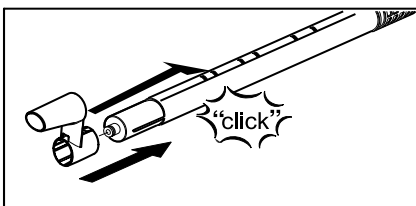

Figure 1
- Hold the unlocking button down, and push the parking device (G3) on an extension tube (G1) until it locks into place in the second aperture. The parking device must lock into place when you release the unlocking button (see Fig. 1).